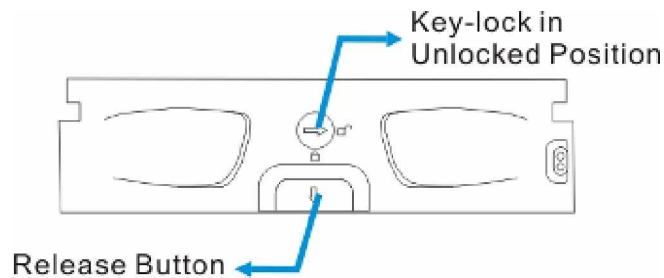

Figure 2-4: Front View of an Individual Drive Tray
Step 1. Make sure the key-lock is in the unlocked position, i.e., the groove on its face is in a horizontal orientation as shown in **Figure 2-4**. If the groove is in a vertical position, then the key-lock is locked and the front flap on the drive tray cannot be opened.